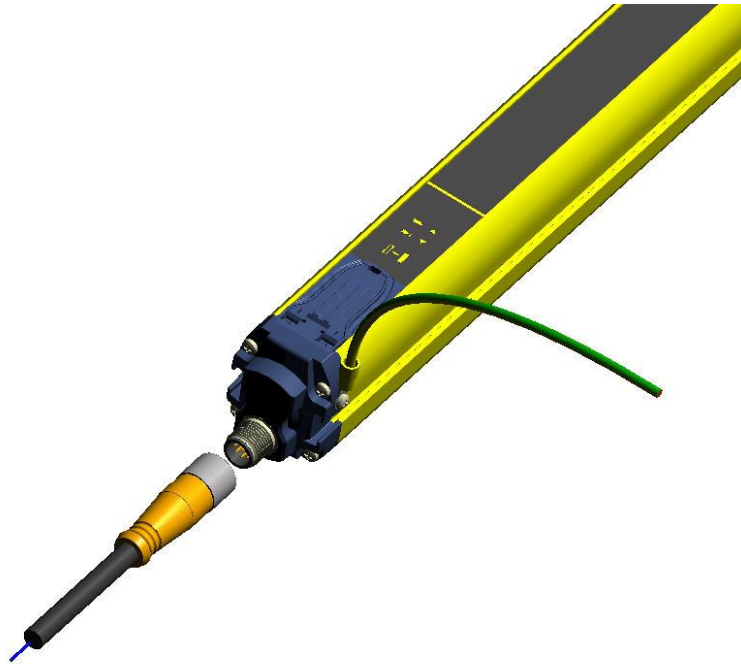

Fig. 12
- It is possible to connect to ground the device housing using the mechanical part supplied for ground connection (refer to configuration illustrated in Fig.12).